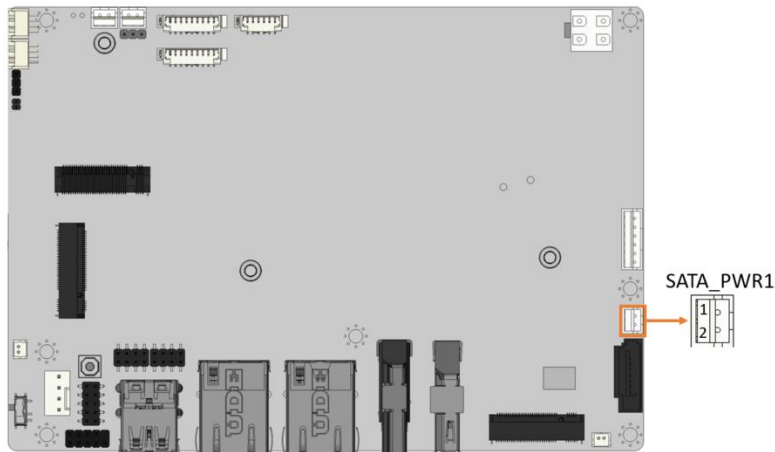

Figure 4-14: SATA Power Connector Location
- CN Location:** See **Figure 4-14**